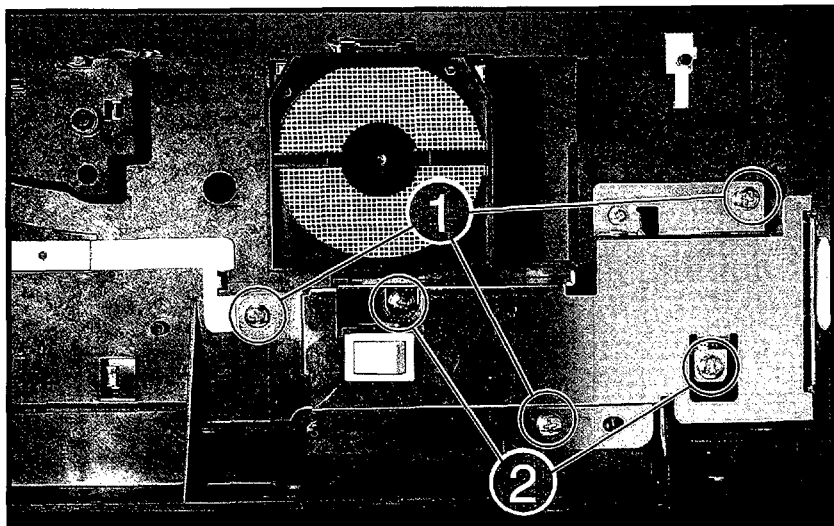

Figure 6-23 Removing the Power Switch Assembly (LaserJet 4P/4MP)
2. Remove the (3) self tapping screws (Figure 6-23, callout 1).
3. Remove the (2) machine screws (Figure 6-23, callout 2), and pull the Power Switch Assembly outward to unplug from the DC Controller.